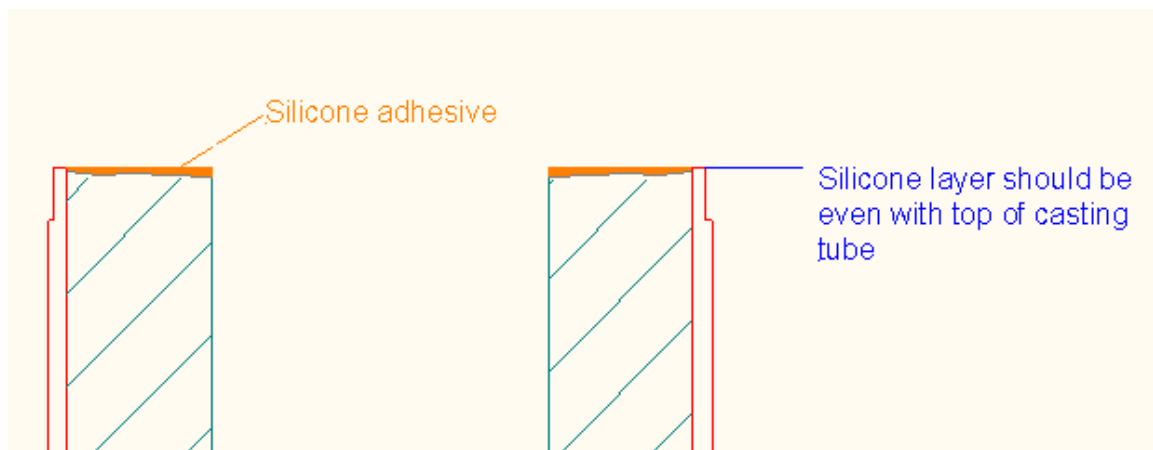

Figure 5 – Application of silicone adhesive
- 38. Apply silicone adhesive over the entire end surfaces of both mating grains, making sure to leave no gaps in coverage. The surface of the adhesive should be at, or slightly above, the level of the flange lip, as illustrated in Figure 5.